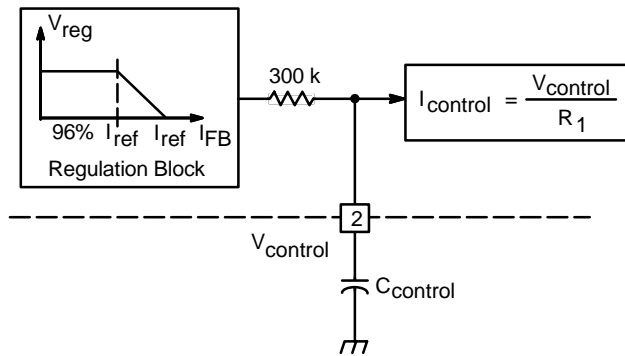
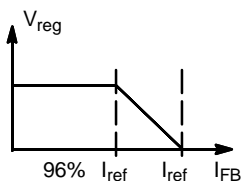

Figure 30. $V_{control}$ Low-Pass Filtering
Figure 32. Regulation Block
Control current $I_{control}$ is a roughly constant current which comes from the PFC output voltage V_{out} which is a slowly varying signal. The bandwidth of $I_{control}$ can be additionally limited by inserting an external capacitor $C_{control}$ to the control voltage $V_{control}$ pin (Pin 2) in Figure 30. It is recommended to limit $f_{control}$, which is the bandwidth of $V_{control}$, below 20 Hz typically to achieve power factor correction purpose. Typical value of $C_{control}$ is between 0.1 μF and 0.33 μF .
Feedback current I_{FB} which represents the output voltage V_{out} is processed in a function with a reference current ($I_{ref} = 200 \mu A$ typical) as shown in regulation block function in Figure 32. The output of the regulation block is V_{reg} which is considered to be the signal $V_{control}$ after the low-pass filter in Figure 30. There are three linear regions including: (1) $I_{FB} < 96\% \times I_{ref}$, (2) $96\% \times I_{ref} < I_{FB} < I_{ref}$, and (3) $I_{FB} > I_{ref}$. They are discussed separately as follows: